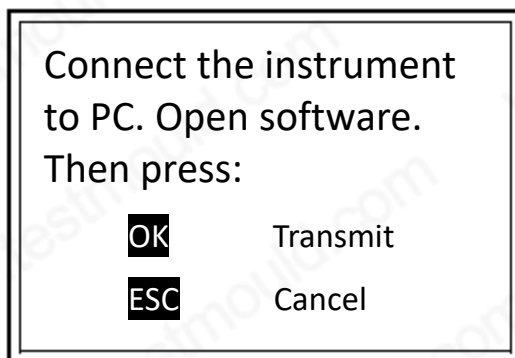

Figure 5.11
- (1) Connect the instrument with the PC by using USB cable or serial port line.
- (2) Switch on the instrument.
- (3) Select and enter the Output data submenu from the main interface.
- (4) Open Evd Dynamic Deformation Modulus analysis software on the PC.
- (5) Click data reading, select serial ports (COM1, COM2, etc.).
- (6) Click the opening serial port in the software from the PC.
- (7) Press the Enter button (As illustrated in Figure 5.11) and wait until the completion of the data output, and the system will return to main interface.